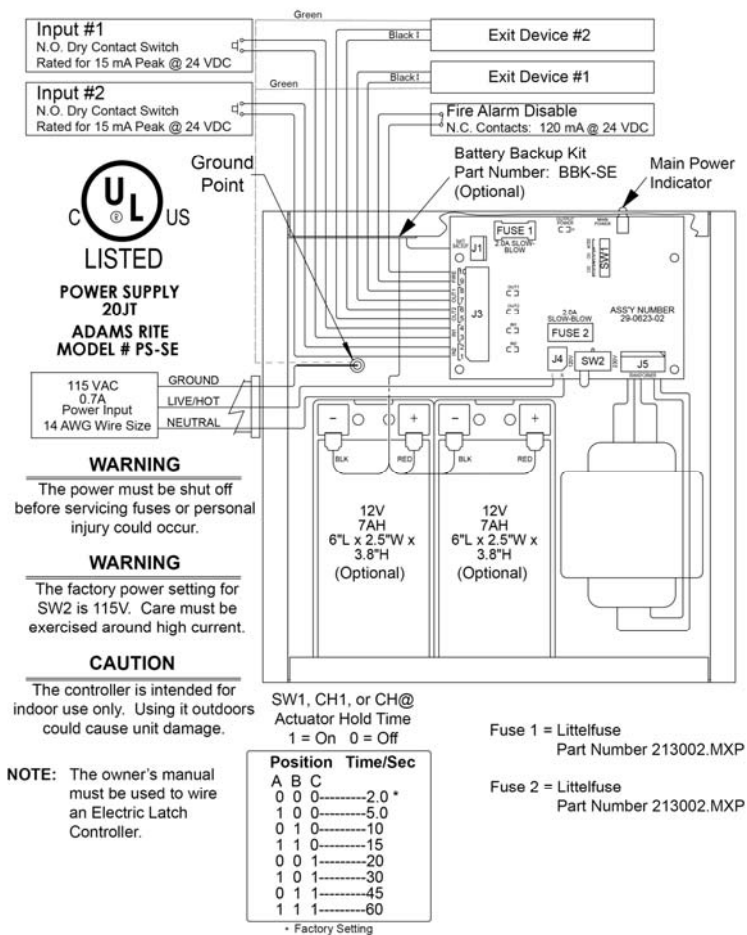

Figure 1. Adams Rite Model # PS-SE Power Supply
NOTE 1: Recommended circuit hookup for the Adams Rite power supply is provided in Figure 1, “Adams Rite Model # PS-SE Power Supply,” and the owner’s manual supplied with the power supply.
- Switch contacts are rated for the power requirements shown in Figure 1.